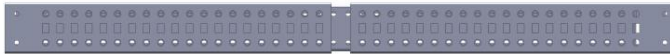

Figure 2
3.Slide the Left corner Brackets and the Right corner Brackets,inward along the Center Sections,and align the Center Sections with the hole on the Left corner Brackets and the Right corner Brackets.(Figure 2)